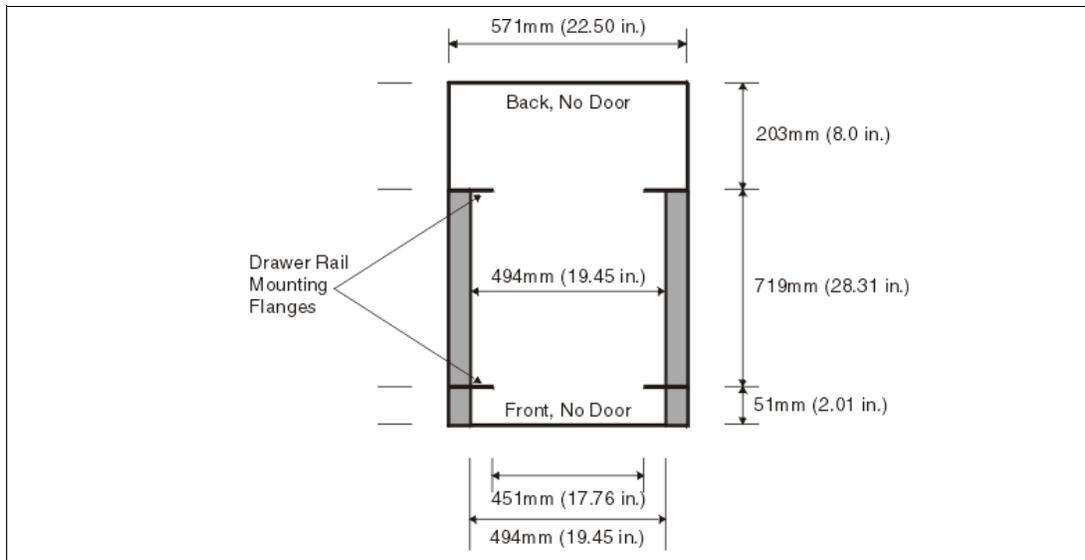

Figure 1-4 Top view of non-IBM rack specification dimensions
- ▶ The front rack opening must be 451 mm wide + 0.75 mm (17.75 in. + 0.03 in.), and the rail-mounting holes must be 465 mm + 0.8 mm (18.3 in. + 0.03 in.) apart on center (horizontal width between the vertical columns of holes on the two front-mounting flanges and on the two rear-mounting flanges). See Figure 1-4 for a top view showing the specification dimensions.